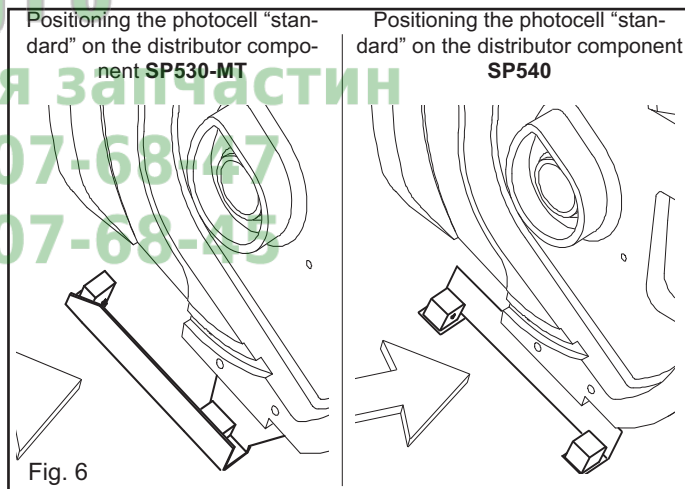

Fig. 6
- The photocells are mounted on each single seeding element and placed on the lower part of the seed distributor (Fig.6).